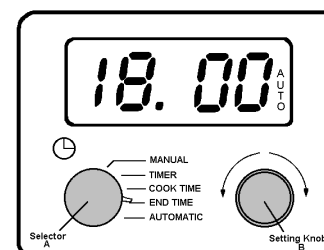

Fig.9
Release button (1). To reset the time of day, press buttons (1) and (2) together. See Fig. 9.
- * If at first you do not set the time of day correctly, reset the clock by pressing and holding button (1). Release the button. The display will count back to 00:00. After a few seconds the display will reset to show 12:00.
- v) Turn the selector (A) to 'End Time'. Turn setting knob (B) until the time you want the food to be cooked is visible, e.g. 18.00 hours (6 pm.) The cooking symbol will go out. Fig.9.
- vi) Turn the selector (A) to 'Automatic'. The display returns to show the time of day. The 'AUTO' symbol will remain lit.